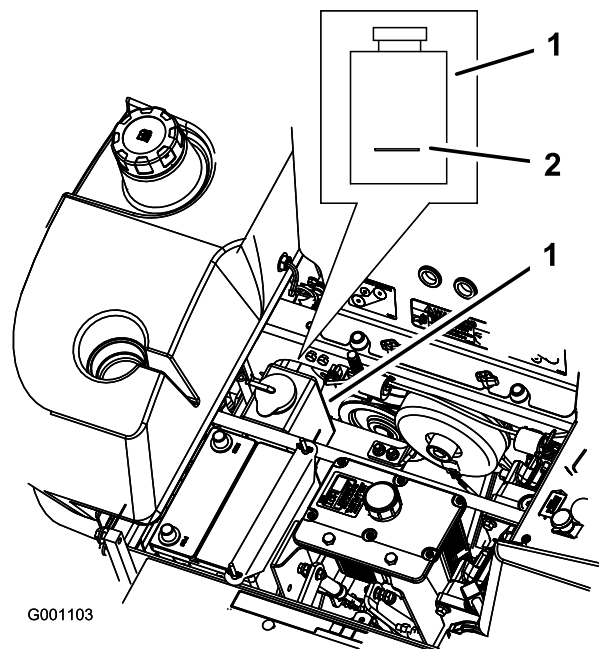

Figure 62
3. With the engine cool, check the overflow bottle level. The fluid needs to be up to the bump on the outside of the overflow bottle (Figure 62).
4. If the coolant level is low, add a 50/50 mix of extended life antifreeze/Dex-Cool® and water to the overflow bottle (Figure 62).
5. Add the 50/50 coolant mix to the overflow bottle and fill it to the indicator line on the bottle (Figure 62).